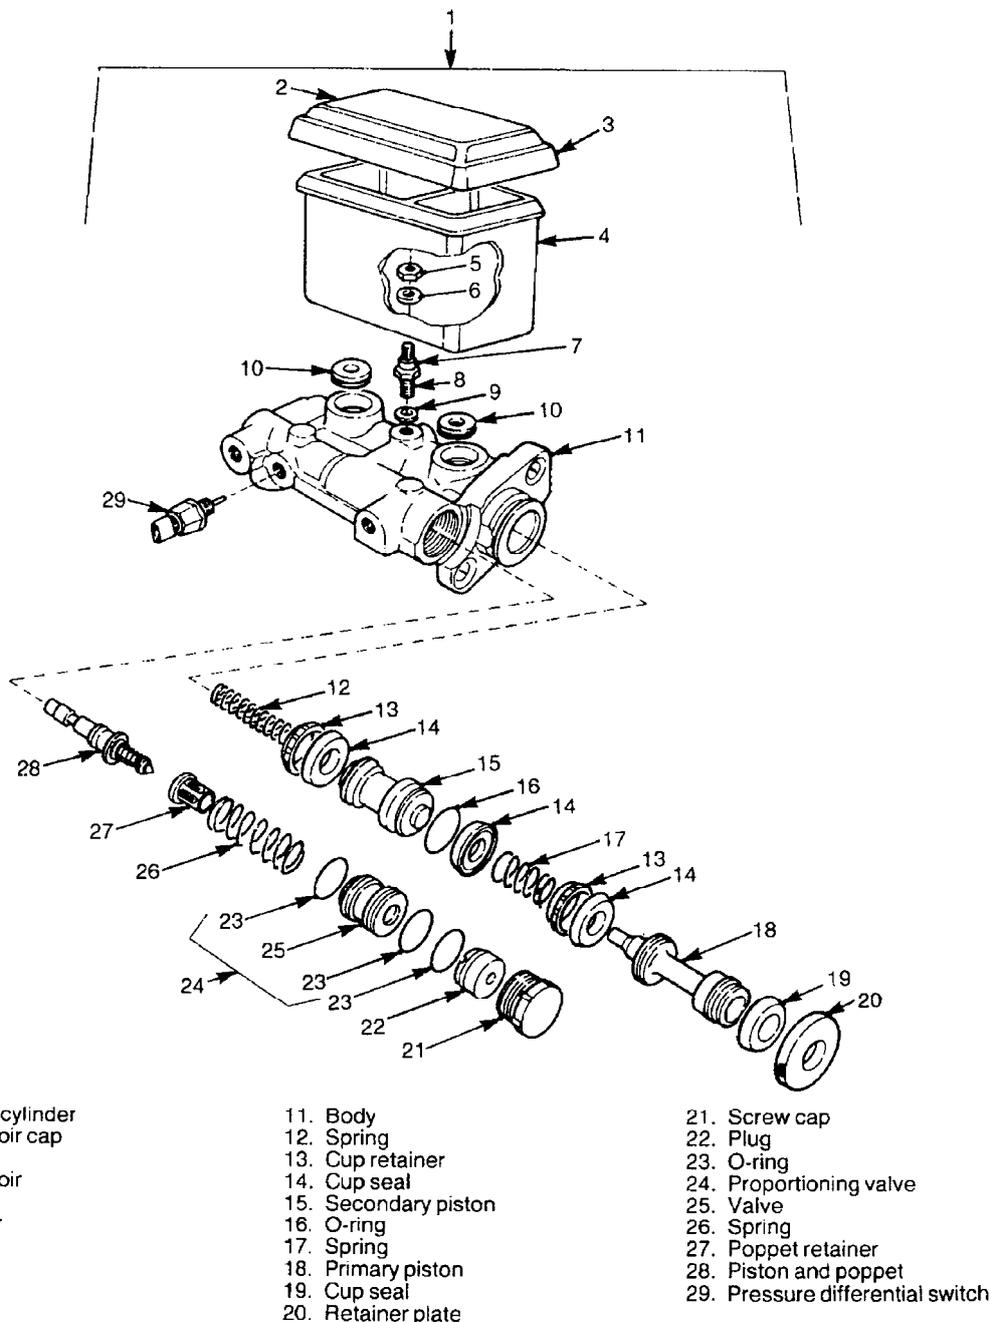

Figure 264 Brake Master Cylinder – Exploded View
90. **Disassembly.** Disassemble the brake master cylinder as follows (Figure 264):
- l. Position the proportioning valve bore vertically and carefully insert the piston and poppet assembly (Item 28) orientated as shown in Figure 264.